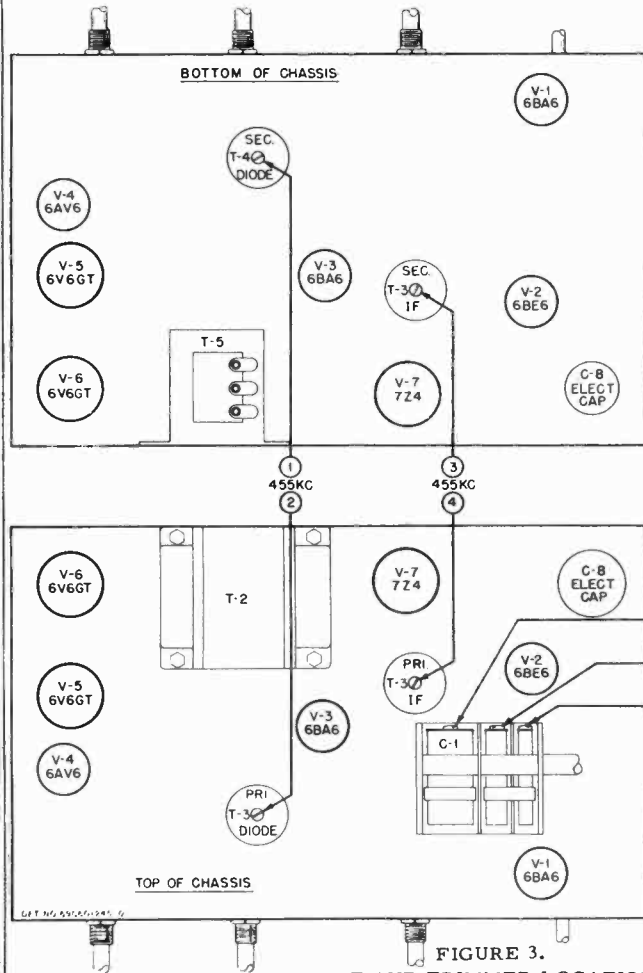

FIGURE 3. TUBE AND TRIMMER LOCATIONS
8. See Figure 3 for adjustment locations, and the following chart for procedure.